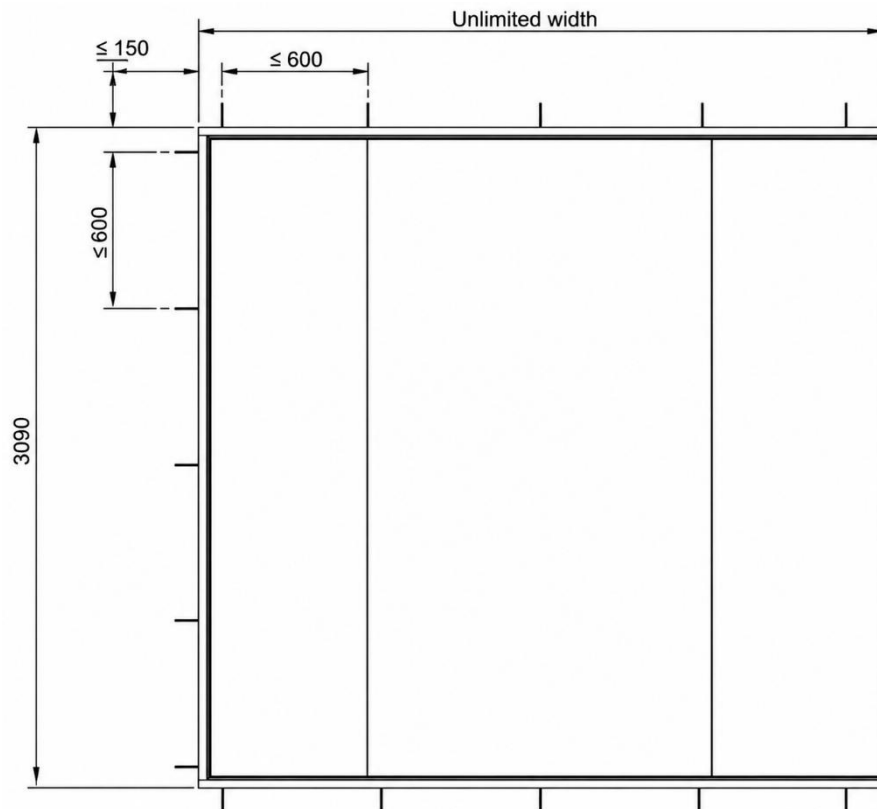

Figure 3: Butt-joint glazing, flat design
- Butt-joint glazing in a straight design (Figure 3)